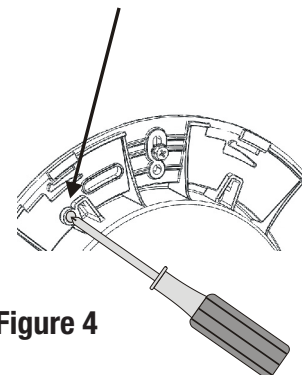

Figure 4
**To remove the Universal ColorLogic/CrystaLogic LED Light from the LFGUY1000 Niche:** Remove the trim ring by turning it counter clockwise. If removal is difficult, carefully insert a flat head screwdriver in one of the four front slots to help rotate the trim ring. With the trim ring removed, insert a small screwdriver into the access hole as show below (Figure 4). Pushing straight into the hole will release the lock, allowing you to rotate the light counter clockwise. Remove the screwdriver and continue to rotate the light until it can be removed from the light fixture.